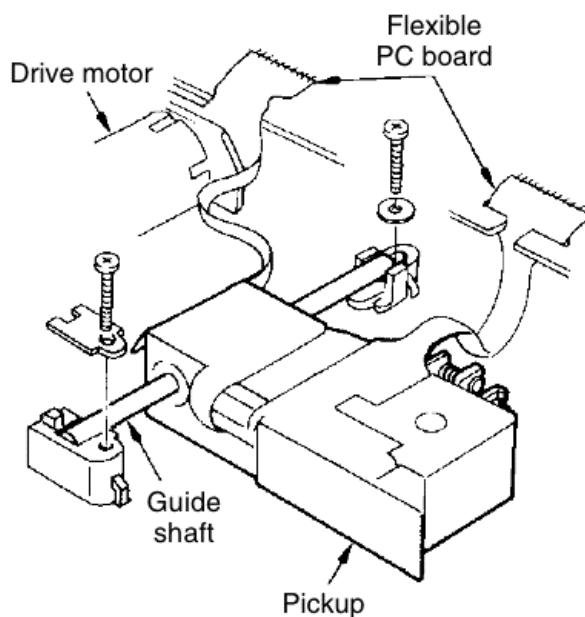

FIGURE 30-31 Remove two metal screws at each end of the guide shaft assembly to help remove the laser assembly.
- 3** Remove the two screws holding the ends of the fixing guide shaft and unsolder the flexible PC board attached to the pickup. When replacing the pickup and flexible PC board mounted to the drive motor, remove the two screws that hold the pickup motor (Fig. 30-31).